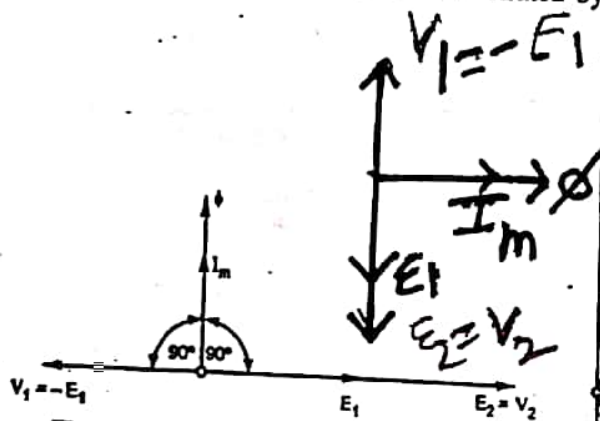

Fig. 10.6 No-Load Phasor Diagram For An Ideal Transformer
- Induced emfs in primary and secondary windings, E_1 and E_2 lag behind the main flux ϕ by $\frac{\pi}{2}$ so these emfs (E_1 and E_2) are in phase with each other, as shown in Fig. 10.6 vectorially.
- Applied voltage to the primary winding leads the main flux by $\frac{\pi}{2}$ and is in phase opposition to the induced emf in the primary winding, as shown in Fig. 10.6 vectorially.